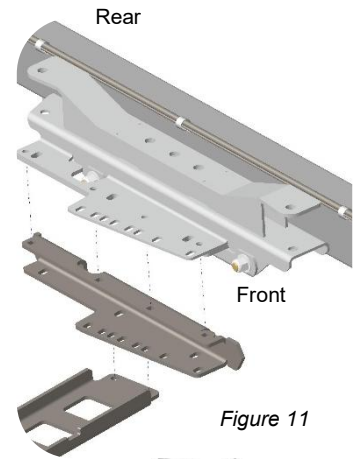

Figure 11
45. Install control arm mounting brackets to the frame (see figure 11 for front to rear orientation). Make sure mounting surface is flat and free of debris. Use the 1/2 x 1-1/2" flat head bolts from hardware kit 155. Use high strength threadlocker and tighten the bolts very tight.
47. The belly height in this kit is extremely adjustable. Anything from a flat belly to 3" drop can be achieved using a combination of spacer plates and spacer brackets (see figure 11, 12 and 13). Flat belly configuration will require a body lift or floor pan modification. Many late model transmissions will require a 2" drop bracket (see figure 11). *2" drop is still 1.5" higher than the stock belly height.* Hardware kit 120 contains the longer bolts needed for the drop spacers.